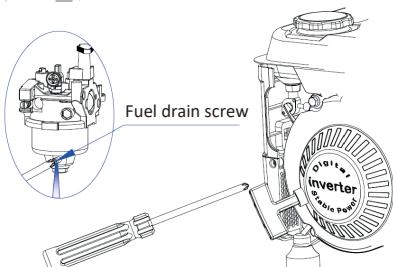

Fig. 10
**Discharging the bad fuel and air from the fuel duct and carburetor (Fig. 10)**